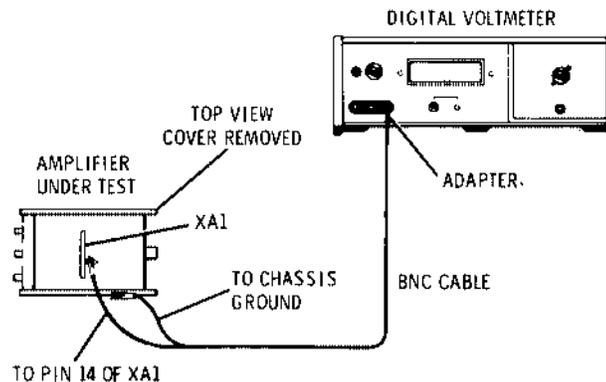

Figure 10
- 1 Connect the test setup in Figure 10. Set the digital voltmeter to measure +20V dc.